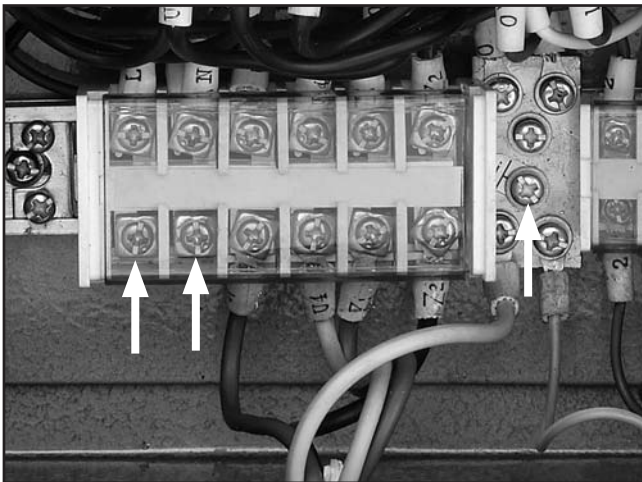

Figure 11. G4016 power cord wiring.
3. Connect the cord to the L, N, and ground terminals shown in **Figure 11**, and close the electrical box.